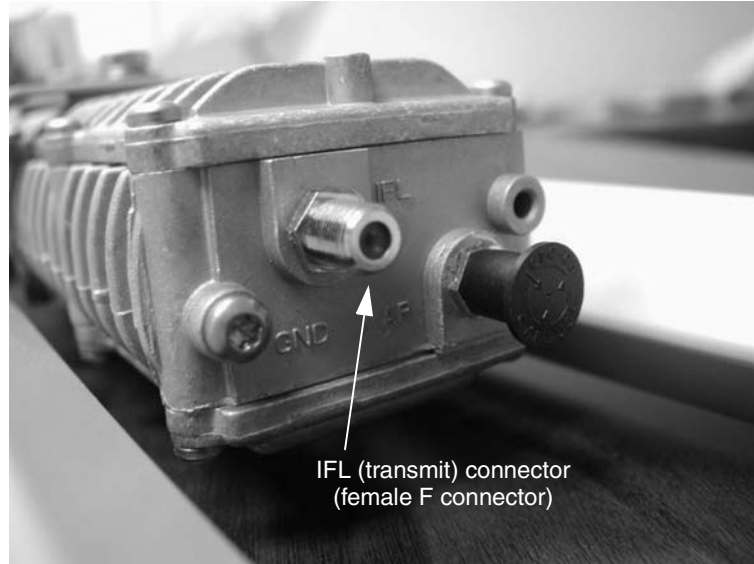

Figure 24: Connecting the transmit cable
2. Go outside and connect the transmit cable to the connector marked *IFL* on the transmitter, as shown in Figure 24.